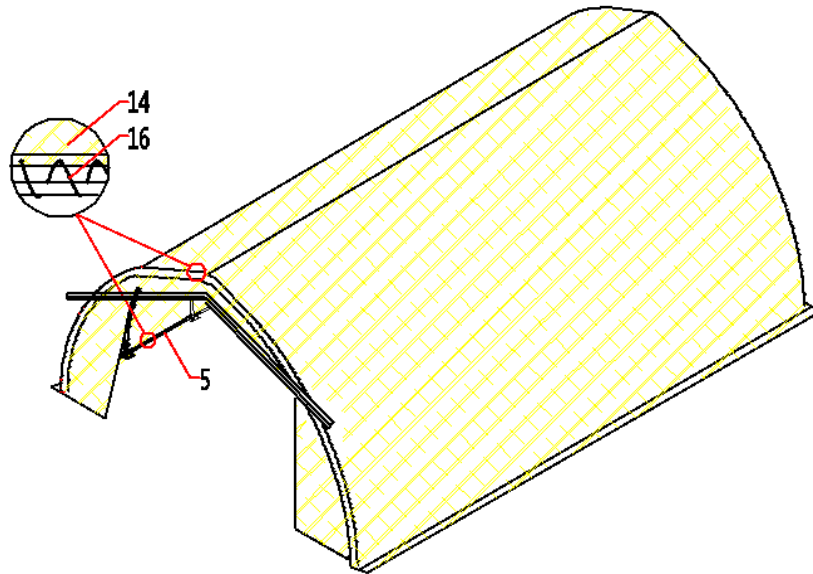

Figure 9
- Pull and stretch the cover enough only to take wrinkles out. Repeat for the rear truss. Do not over stretch as it could rip off the grommets (Figure 9).